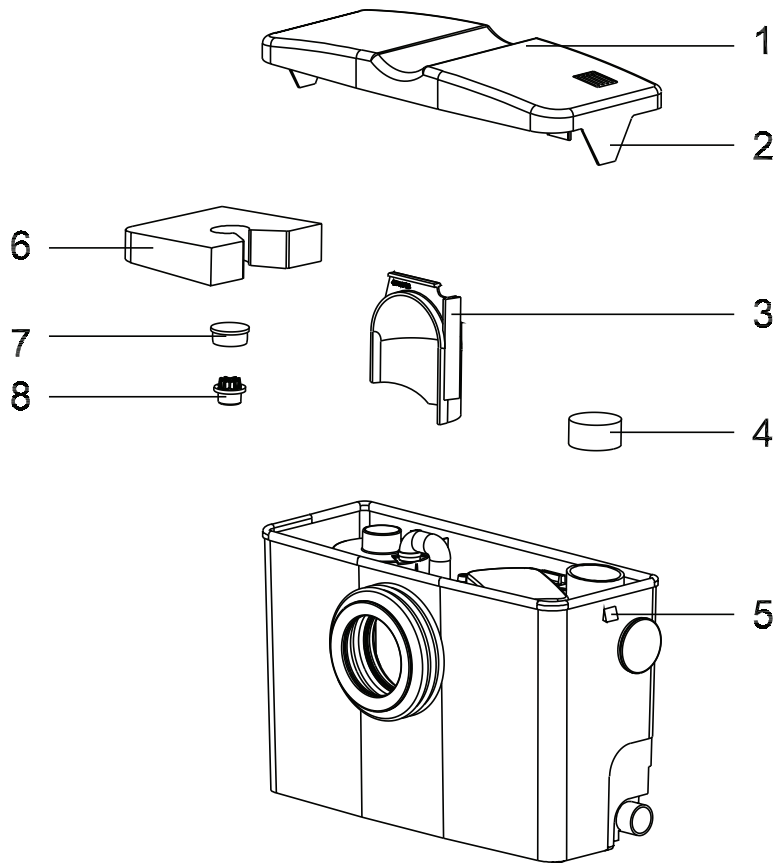
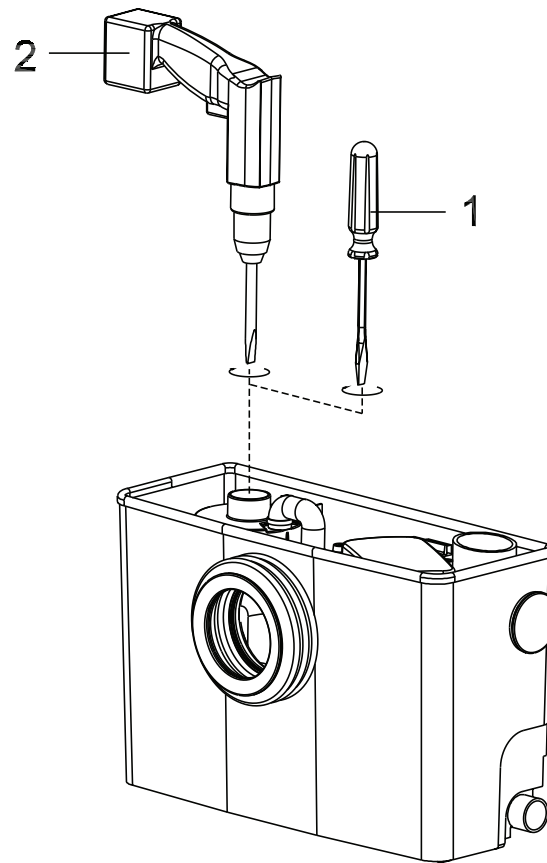

Figure 9: Piranhamat 100/120 opened for maintenance purposes.
Figure 10: Emptying the tank
There is a danger of injury from the cutting tool in the hydraulic system. Do not place your hand in the tank when the rotorshaft is being turned with a screwdriver or drill as in Fig.10.
- Press the latches (Fig 9: 2) on the tank cover (Fig 9: 1) lightly to the outside and lift off the tank cover.
- Change the carbon filter (Fig 9: 4).
- Pull the latches (Fig 9: 2) on the tank cover (Fig 9: 1) lightly to the outside and lift off the cover.
- Remove the float protection (Fig 9: 6).
- Withdraw cap (Fig 9: 7) from motor housing.
- Unscrew plug screw (Fig 9: 8) and clear a possible blockage of the cutting system by rotating the rotorshaft with a screwdriver (Fig 10: 1).
- Finally fit a drill with screwdriver attachment (Fig 10: 2).
- Screw in plug screw (Fig 9: 8), fit cap (Fig 9: 7), replace float protection and replace tank cover.